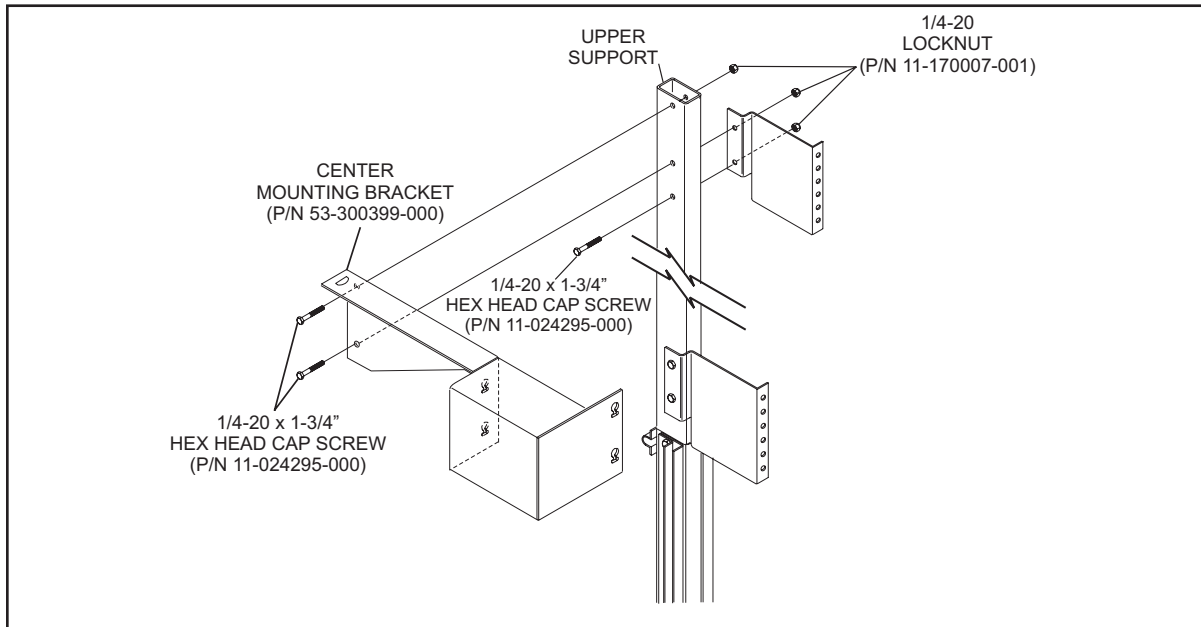

Figure 30
1. Install the intermediate support assembly “D” projection screen mounting bracket and upper graphic standoff. Refer to *Figure 30*.